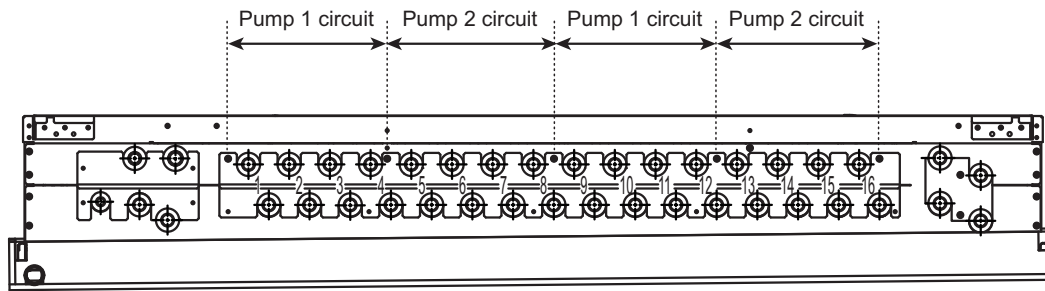

Fig. 11-2-1B
- ◆When connecting junction pipes to HBC ports, the branched sides of the junction pipes cannot be connected to combinations of ports "4 and 5," "8 and 9," or "12 and 13." (See Fig. 11-2-1B.)
- ◆HBC has two pumps. Each pump can accommodate the capacity of indoor units equivalent to W(P)175. Make sure that the total capacity of the indoor units connected to "ports 1 through 4 and 9 through 12" or "5 through 8 and 13 through 16" will not exceed W(P)175. (See Fig. 11-2-1B.)
- When connecting junction pipes to HBC ports, the branched sides of the junction pipes cannot be connected to combinations of ports "4 and 5," "8 and 9," or "12 and 13." (See Fig. 11-2-1B.)
- HBC has two pumps. Each pump can accommodate the capacity of indoor units equivalent to W(P)175. Make sure that the total capacity of the indoor units connected to "ports 1 through 4 and 9 through 12" or "5 through 8 and 13 through 16" will not exceed W(P)175. (See Fig. 11-2-1B.)